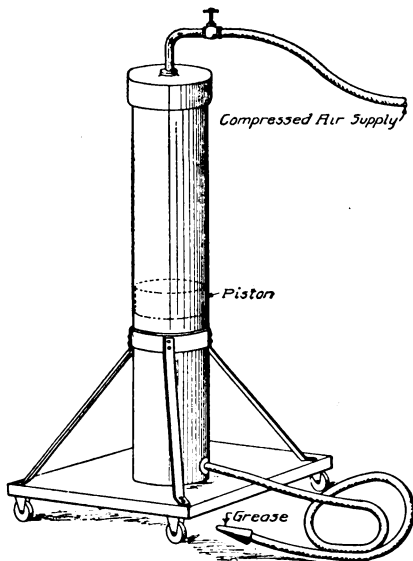

Fig. 230. Mammoth Grease Gun for Garage Use
**Mammoth Grease Gun.** For the average shop which handles a good many cars a day, too much time is wasted in using an ordinary method of filling a transmission, rear axle, or other large part, with grease. A mammoth grease gun can be constructed to do this same work in a few seconds. A form operated by compressed air is shown in Fig. 230. It consists of a steel cylinder about 8 inches in diameter and perhaps 7 feet long mounted vertically on a platform which is set on castors so that it can be wheeled around the shop as needed. A free piston is placed in the cylinder, above the grease, and air admitted through the central opening in the screw top by screwing on a compressed air hose. The outlet hose at the bottom is made long enough to reach any ordinary point on the average car. When a transmission is to be filled, the platform is wheeled up to the car, the bottom hose put in the transmission, and the cock opened.